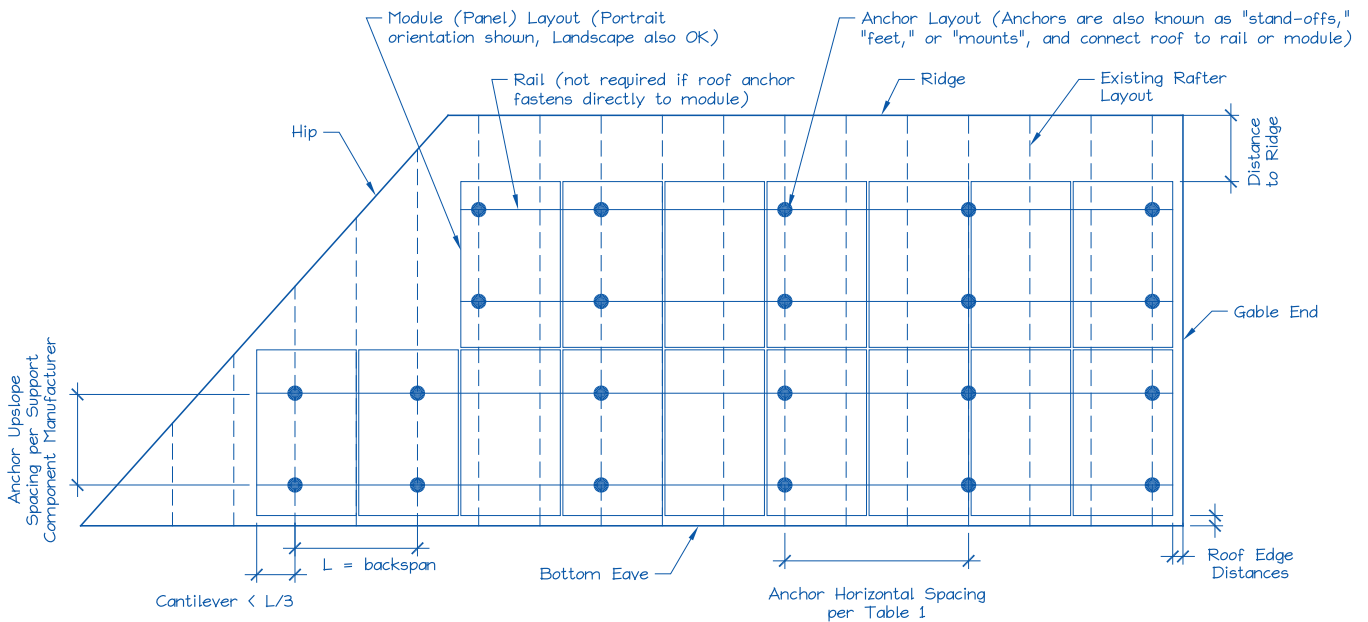

Figure 2. Sample Solar Panel Array and Anchor Layout Diagram (Roof Plan).
E. Is a roof plan of the module and anchor layout attached? (see Figure 2)
- 1) Proposed anchor horizontal spacing (see Figure 2): _____
- A. All items above are checked (Y) YES. No additional calculations are required.
B. One or more items are checked (N) NO. Attach project-specific drawings and calculations stamped and signed by a California-licensed Civil or Structural Engineer.
- Anchors are also known as "stand-offs", "feet", "mounts" or "points of attachment". Horizontal anchor spacing is also known as "cross-slope" or "east-west" anchor spacing (see Figure 2).